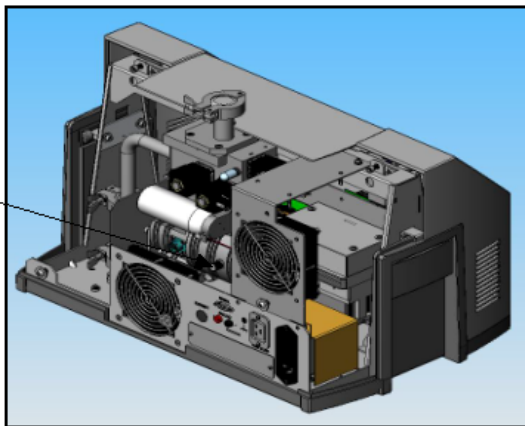

Figure 10: Vent Valve
25. Ensure that the vent valve on the turbo molecular pump (if installed) is tightened (Figure 10: Vent Valve).